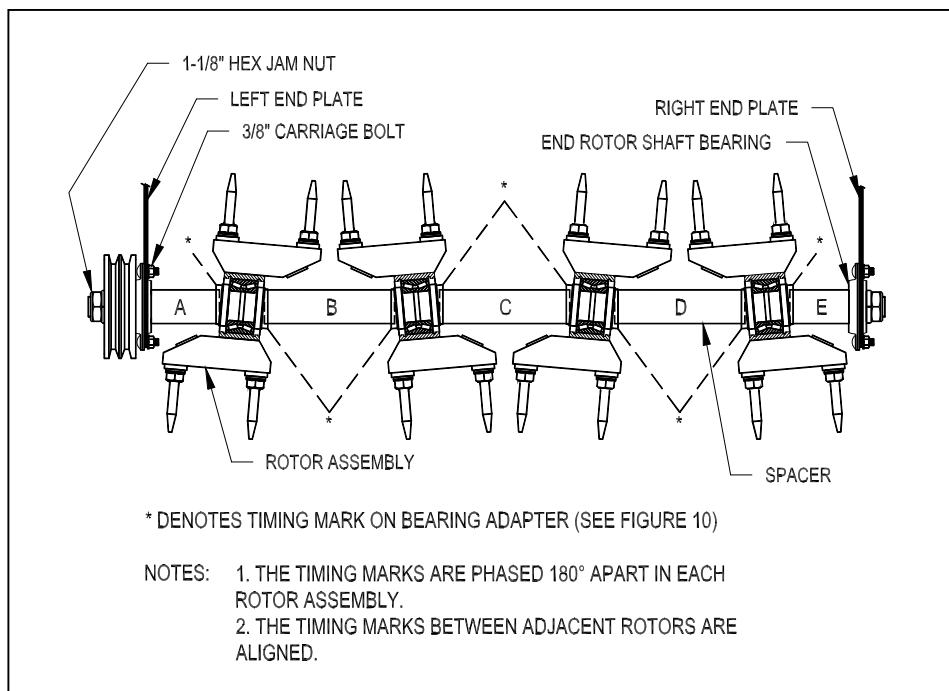

Figure 6. Rotor Shaft Assembly
3. Remove 3/8" carriage bolts holding end rotor shaft bearings (see Figure 6).
1. Remove the 1-1/8" hex jam nut from the shaft nearest to the damaged rotor (see Figure 6).
3. Install the required components in the sequence shown in Figure 6, double-checking the timing mark locations and spacer lengths (see following table) as each rotor is installed.
Reinstall the rotor shaft into main frame by reversing the shaft removal steps outlined in I-A. Refer to Figure 6 for correct location of bearing stampings, bolts, etc. Tighten the 3/8 flange lock nuts at each bearing to 35 ft-lbs.